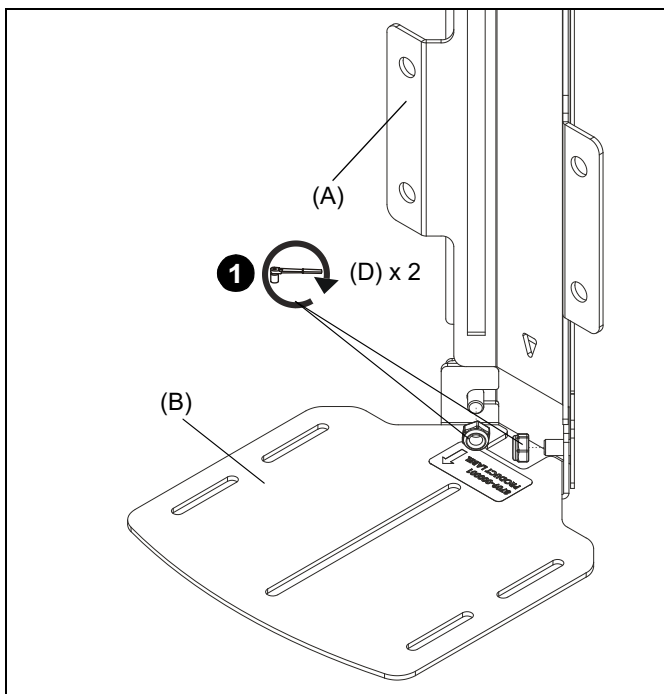

Figure 1
1. Use two M8 hex nuts (D) to secure camera shelf (B) to attachment plate (A). (See Figure 1)